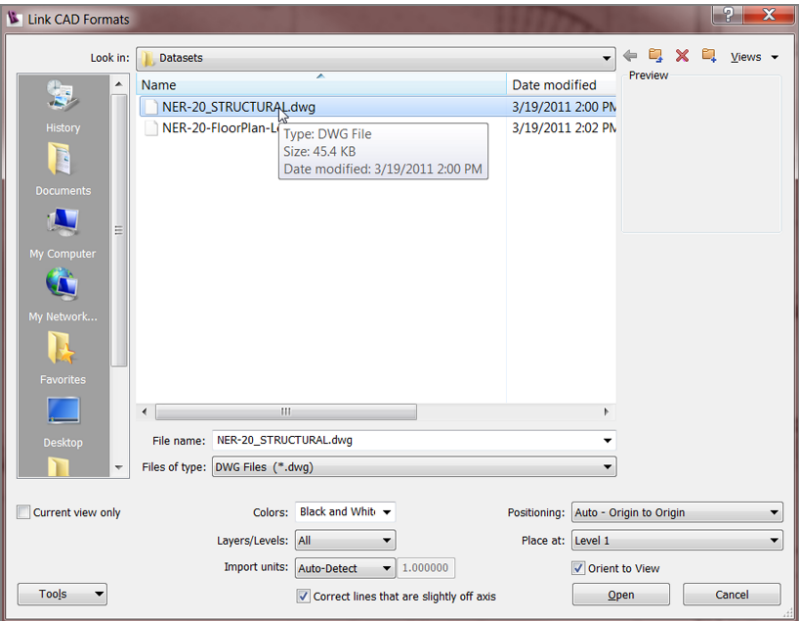

FIGURE 20.19: Configuring the link
14. Set Positioning to Auto - Origin To Origin (see Figure 20.19).